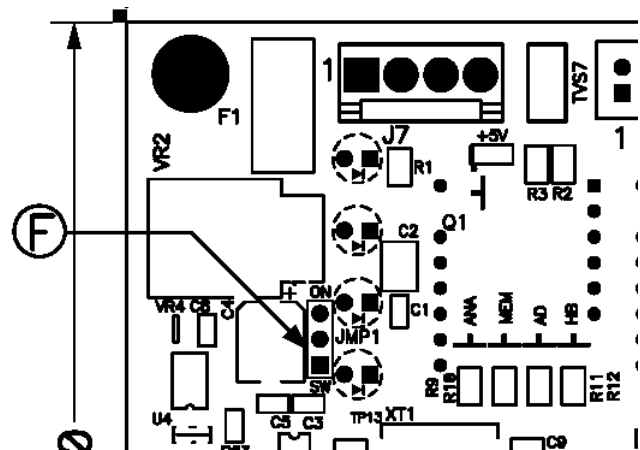
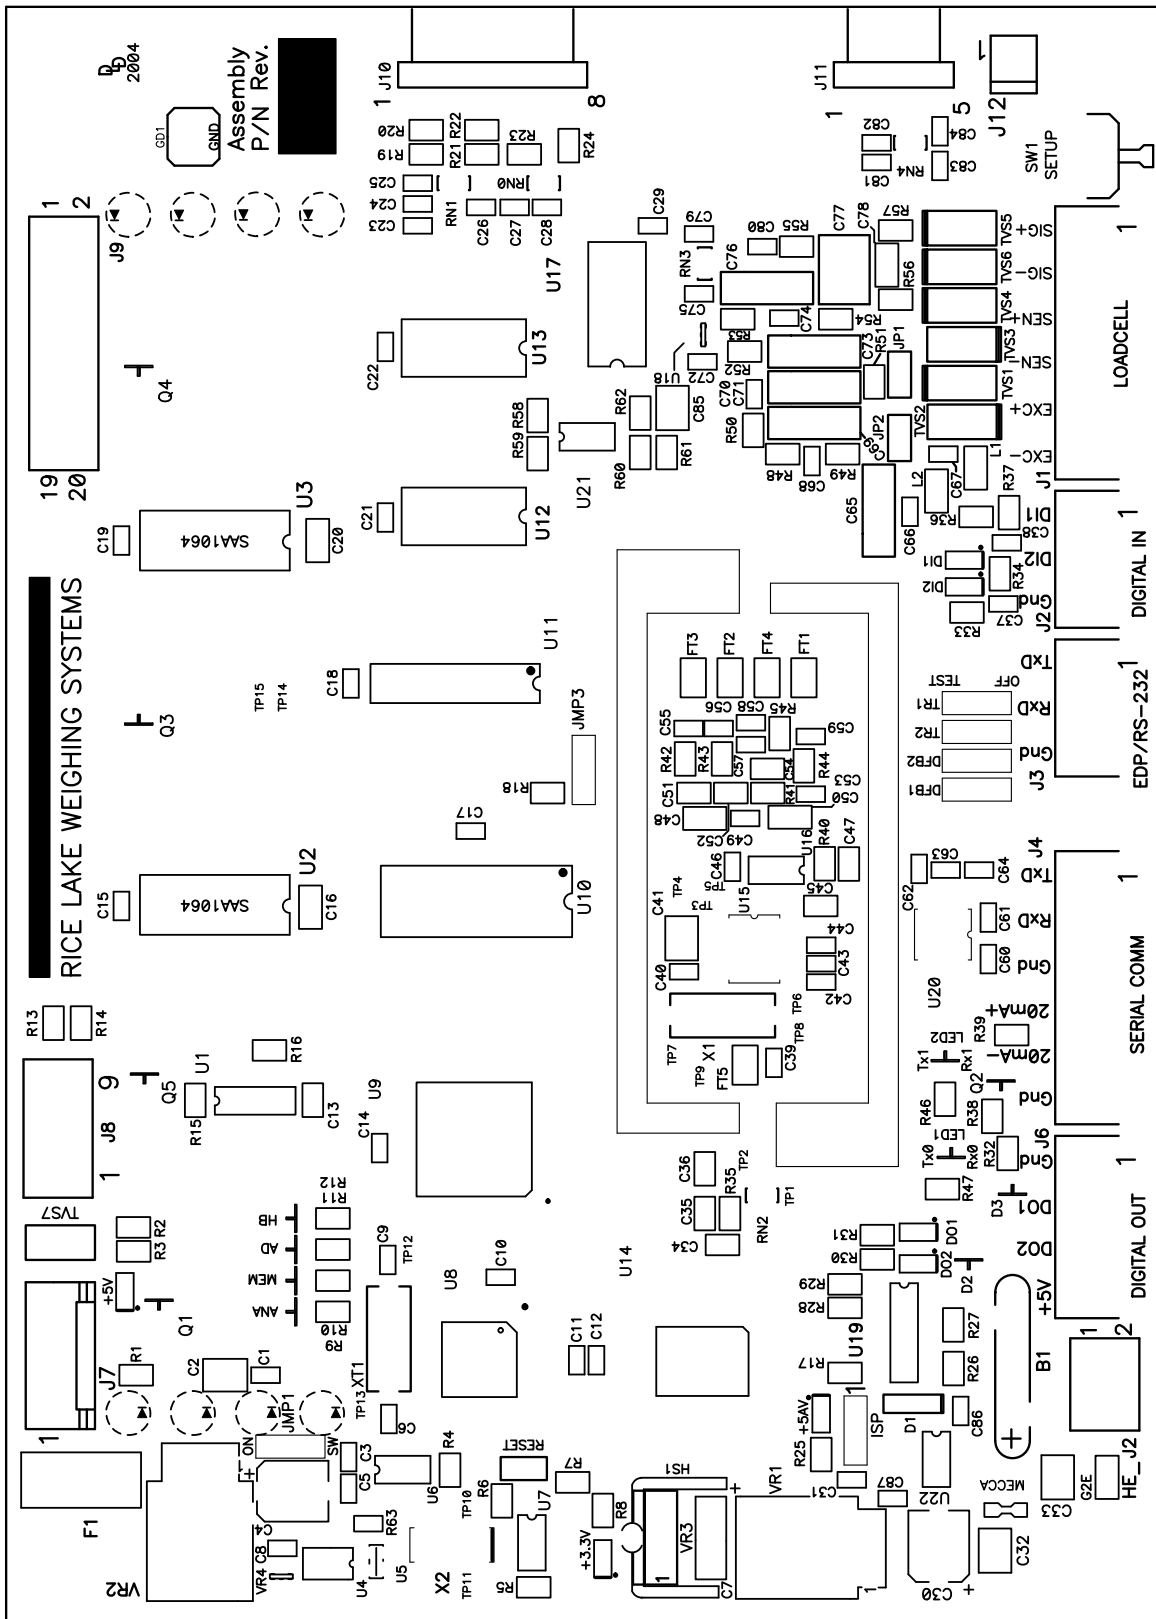

Figure 1-3. 420 Plus CPU and Power Supply Board JMP1 Shunt Location
Figure 1-4. 420 Plus CPU and Power Supply Board
- Two, six-position screw terminals (PN 70599) for connectors J4 & J1, two, three-position screw terminals (PN 71125) for connectors J2 and J3, and one, four-position screw terminal (PN 71126) for connector J6 (see figure 1-4).
If jumper JMP1 is set for SW position, the power switch on the front panel of the indicator will turn the unit ON or OFF. If it is not in the SW position, the indicator will power up as soon as the AC is applied. This allows the front panel overlay power control switch to be bypassed. Label “F” in Figure 1-3 shows the location of JMP1. Figure 1-4 on page 10 shows entire board.
To attach cable from a load cell or junction box, remove connector J1 from the board. The connector plugs into a header on the board as shown in Figure 1-4 10.
Using one of the 6-position connectors, provided in the parts kit, wire the load cell cable from the load cell or junction box to connector J1 on the CPU board (See Figure 1-4 10). If using six-wire load cell cable (with sense wires), remove jumpers JP1 and JP2 before reinstalling connector J1 (see Figure 1-4). For four-wire installation, leave jumpers JP1 and JP2 on. When connections are complete, reinstall connector J1 onto the header so that it snaps securely into place. Use two cable ties to secure the load cell cable to the inside of the enclosure.
Once cables are attached, reconnect J3 and J4 to the headers on the board (see Figure 1-4). Use cable ties to secure serial cables to the inside of the enclosure.